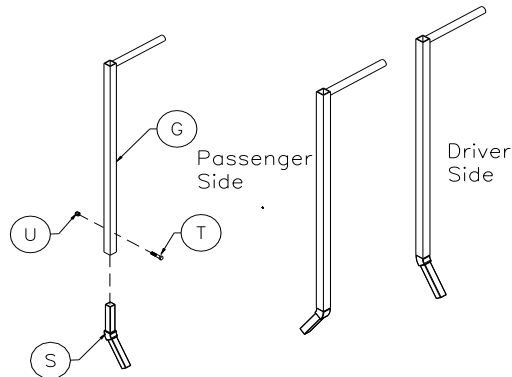

Figure 12
Slide the pivot arm elbow (S) into the top pivot arm (G) Figure 12. Drill a 3/8" hole through the top pivot arm and pivot arm elbow about 4" in from the bottom edge of the top pivot arm. Bolt together with a 3/8"x1-3/4" bolt (T) and 3/8" nylon lock nut (U). Do all four at the same time and there are lefts and rights.